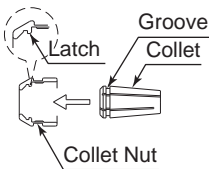
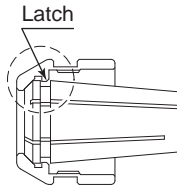
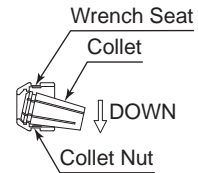

Fig. 3
Fig. 4
Fig. 5
- (1) Attach the collet to the collet nut. Be sure to fully engage the latch inside the collet nut to the groove on the collets outer circumference area (Fig. 3, Fig. 4) (Install the collet in the collet nut by positioning the collet in the collet nut and pressing down on flat surface (Fig. 5)).
- (4) When removing the tool, set the wrench on the collet nut and turn it counterclockwise to loosen the collet and remove the tool (The first turn will loosen the collet nut, but the tool will not release and turning will become stiff. Keep turning through the stiffness and the collet will open).
- (5) When removing the collet, the collet and collet nut are secured by a groove in the collet and a flange in the collet nut. To remove the collet hold the collet nut in one hand and push diagonally down on the collet. The collet should be released (Fig. 5).